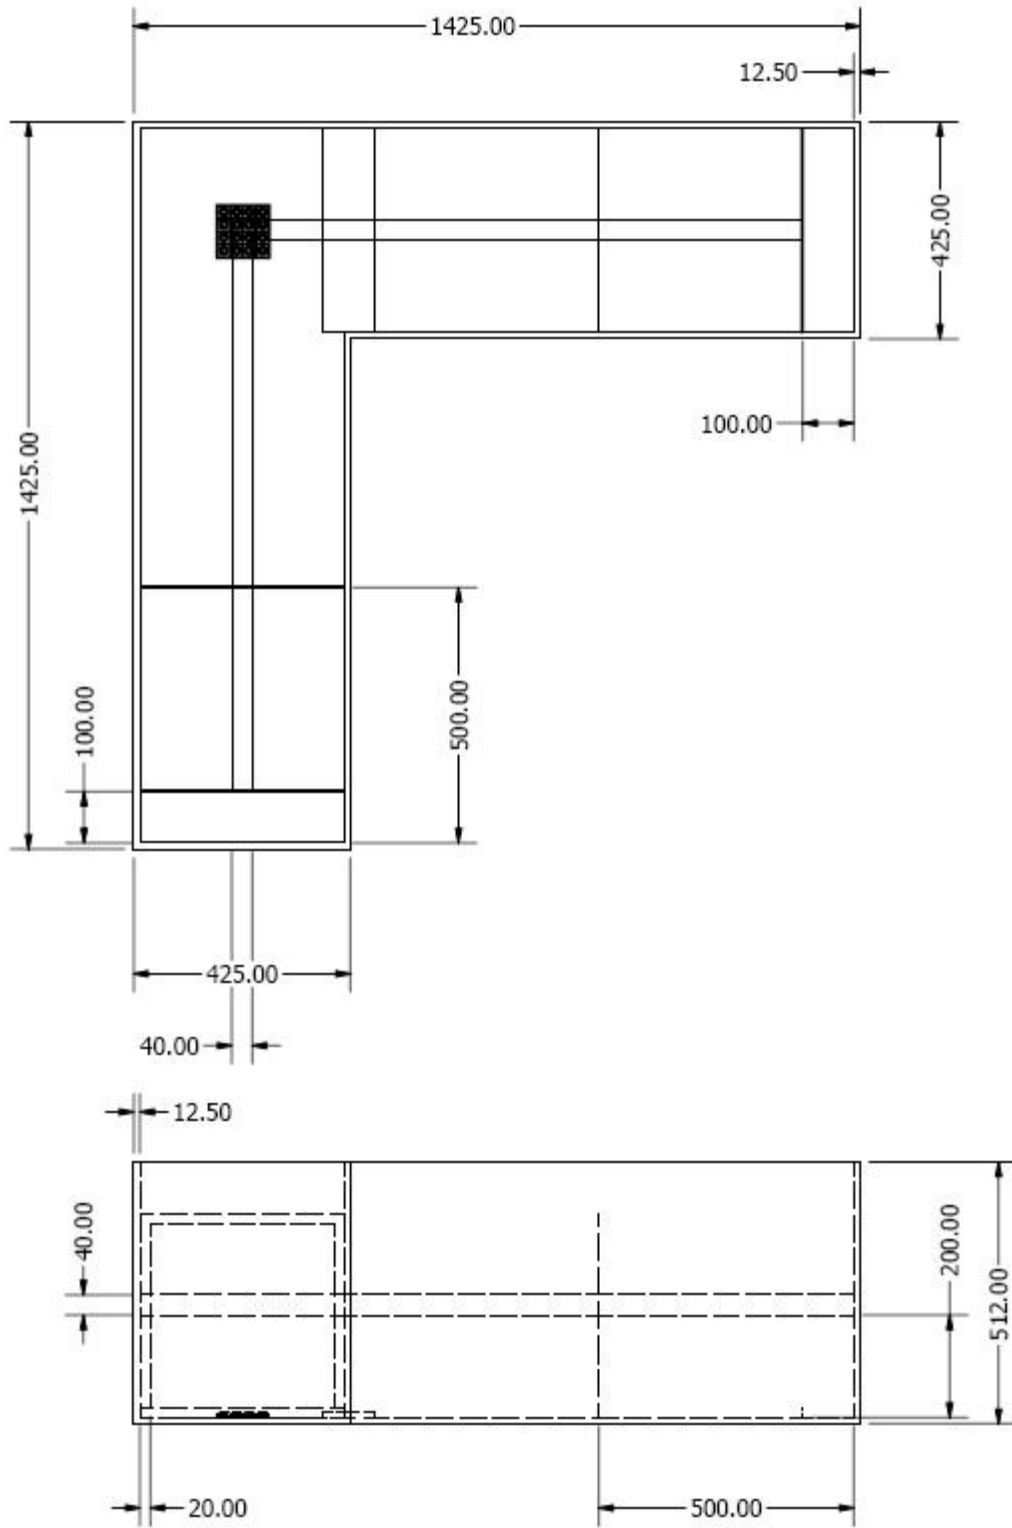

Figure 1: Examples of tanks (in mm). Can change according to the conditional field
- 3.1 The game will be played in an L-shaped tank of dimension: 1425mm x 1425mm x 500mm. The tank has a glass of 12.5 mm thickness. See Figure 1 for details.
- 3.4. In the central area of the tank there shall be a cargo holder containing 16 objects arranged in a grid. This holder will be elevated from the tank floor by about 2 cm. See Figure 1 layout.